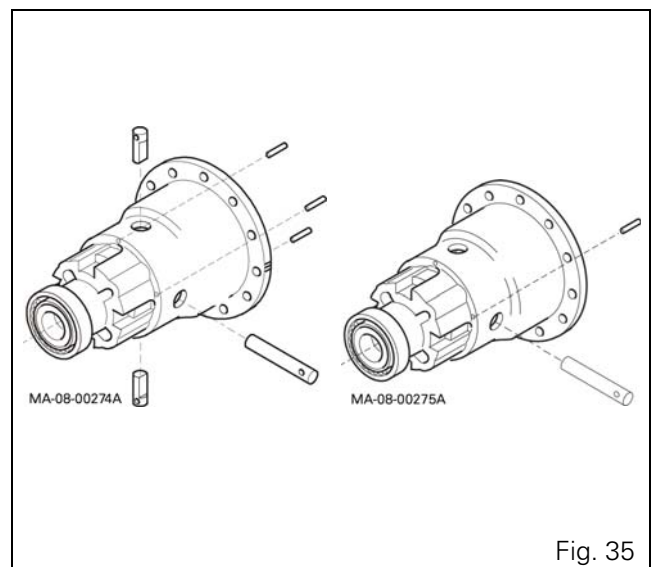

Fig. 35
40. Lock the pins with corresponding locating dowels in the ports provided on the bearing and pins. Manually turn the pins to align the dowels with the bearing ports (Fig. 35) for model 20.19.